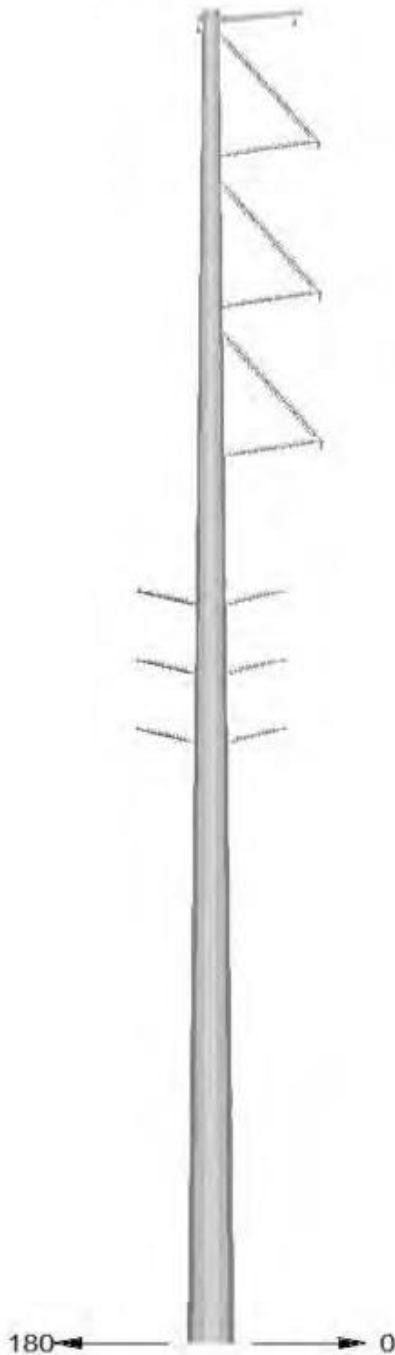

FIGURE G-24
- Figure G-24: Rendering of Proposed Prickly Pear 230 kV Substation